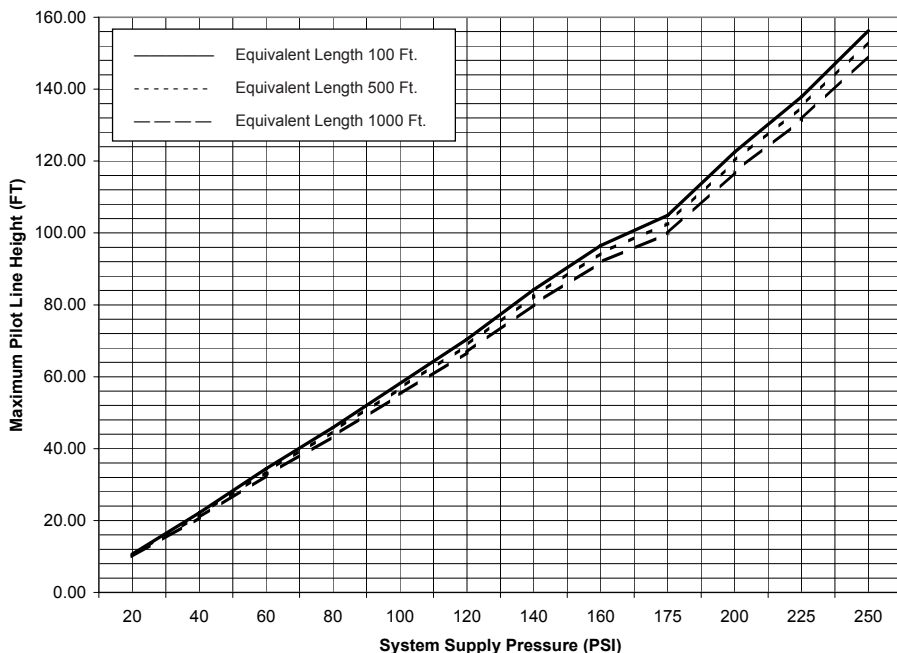

Figure 4 - 4" (DN100) Model F-1 Deluge Valves
A. Standard Foam Deluge, Foam Preaction, and Foam Flow Control Systems (See Figure 4)